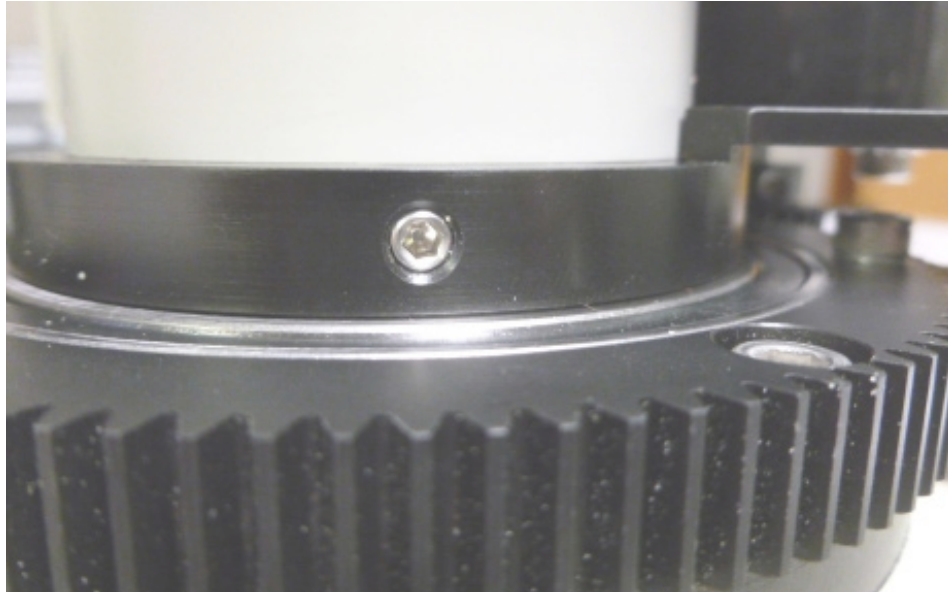

Figure 3
Loosen the four (4) set screws at locations shown (**FIGURE 3**).